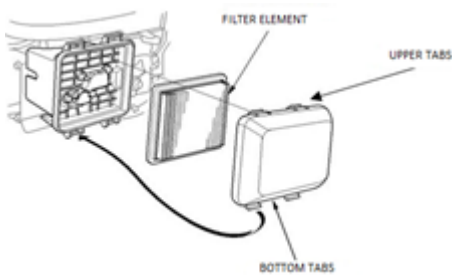

Fig. 10
- Remove the air filter cover by releasing the upper and lower tabs (Fig. 10).